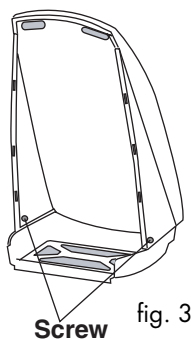

fig. 3
- 3) Fit the front panel assembly to the base plate by fixing the two screws (fig.3) (removed previously) through the aligned screw holes (holes D and A).